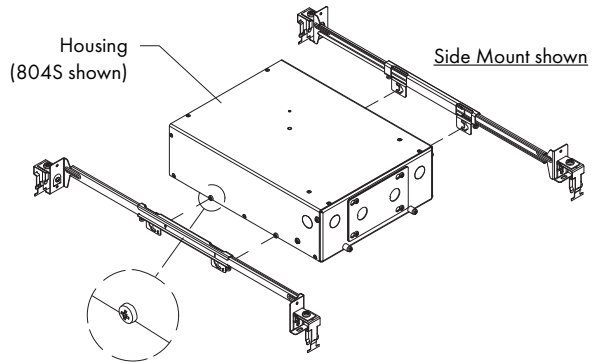

FIG 5.2 Attach Hanger Bracket Assemblies to Housing
STEP 2 Attach Bar Hanger Brackets to Housing in hole position 1 or 2 to accommodate Trim Model & ceiling tile thickness (refer to Page 1 - Table 1.1) - **FIG. 5.2**.